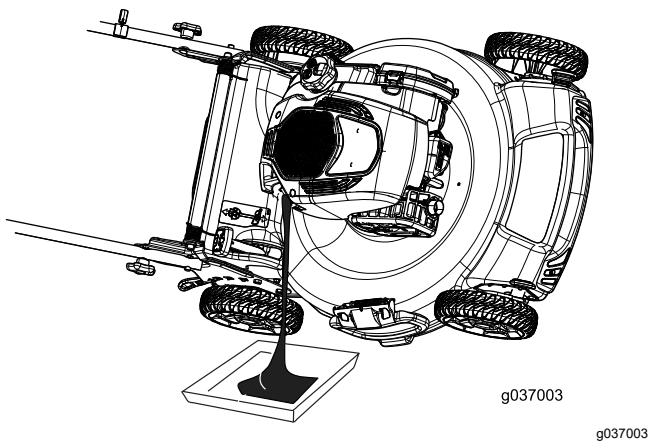

Figure 32
- 4. Tip the machine onto its side (so that the air filter is up) to drain the used oil from the oil-fill tube (Figure 32).